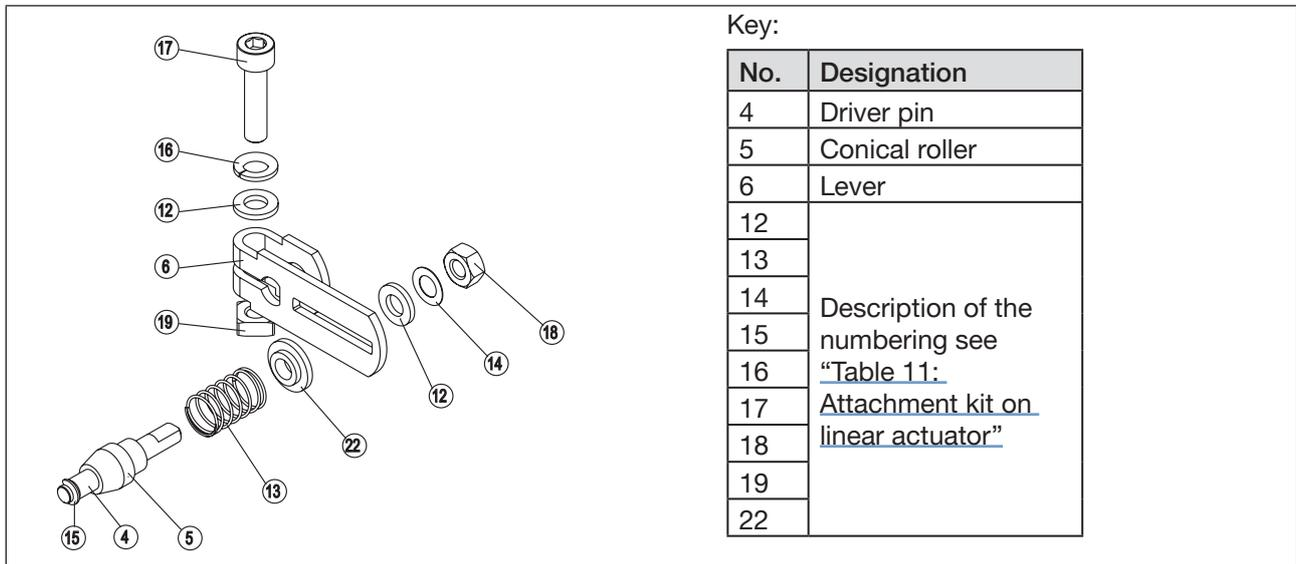

Figure 10: Assembling the lever
up → Connection according to “Figure 10”
down → Connection according to “Figure 10”
- Assemble lever (unless pre-assembled) (see “Figure 10: Assembling the lever”).